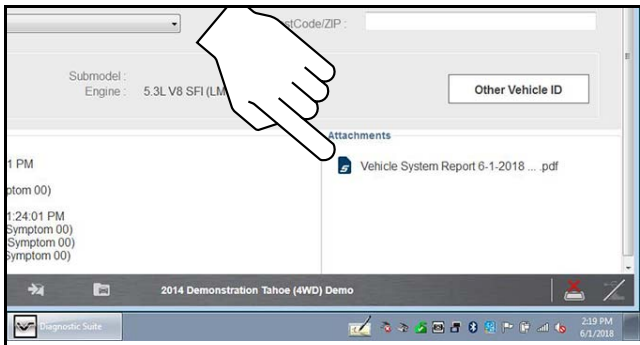

Figure 5-27
3. Select and open the Vehicle System Report PDF file from the attachments box (Figure 5-27).